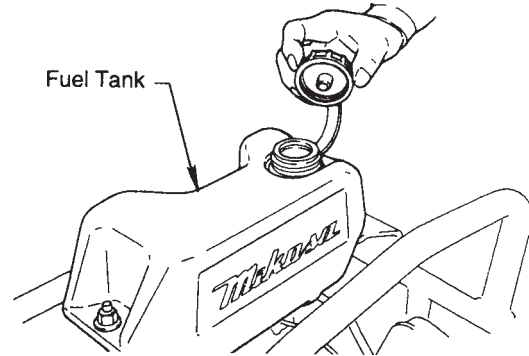

Figure 5. Fuel Tank
1. Fill the fuel tank (Figure 5) with unleaded gasoline. At the same time, check the engine oil and make it a habit to replenish it often.
2. Close the fuel shut-off valve by moving the fuel cock lever to the **CLOSED** position. See Figure 5.